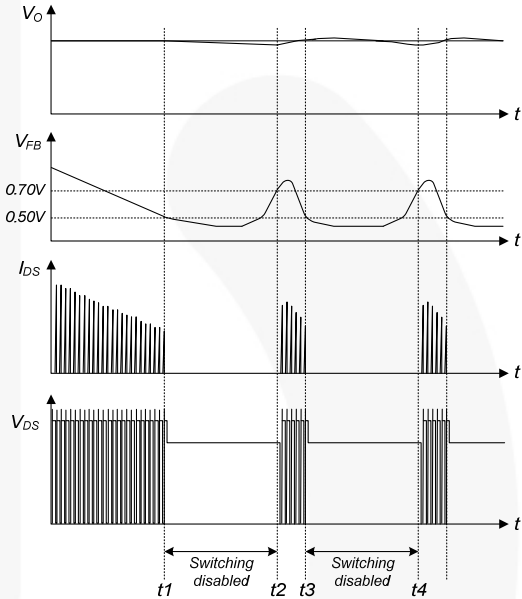

**Figure 22. Output-Short Protection**
**4.3. Output-Short Protection (OSP):** If the output is shorted, steep current with extremely high di/dt can flow through the SenseFET during the minimum turn-on time. Such a steep current brings high-voltage stress on the drain of the SenseFET when turned off. To protect the device from this abnormal condition, OSP is included. It is comprised of detecting  $V_{FB}$  and SenseFET turn-on time. When the  $V_{FB}$  is higher than 1.6V and the SenseFET turn-on time is lower than  $1.0\mu s$ , the FSGM300N recognizes this condition as an abnormal error and shuts down PWM switching until  $V_{CC}$  reaches  $V_{START}$  again. An abnormal condition output short is shown in Figure 22.